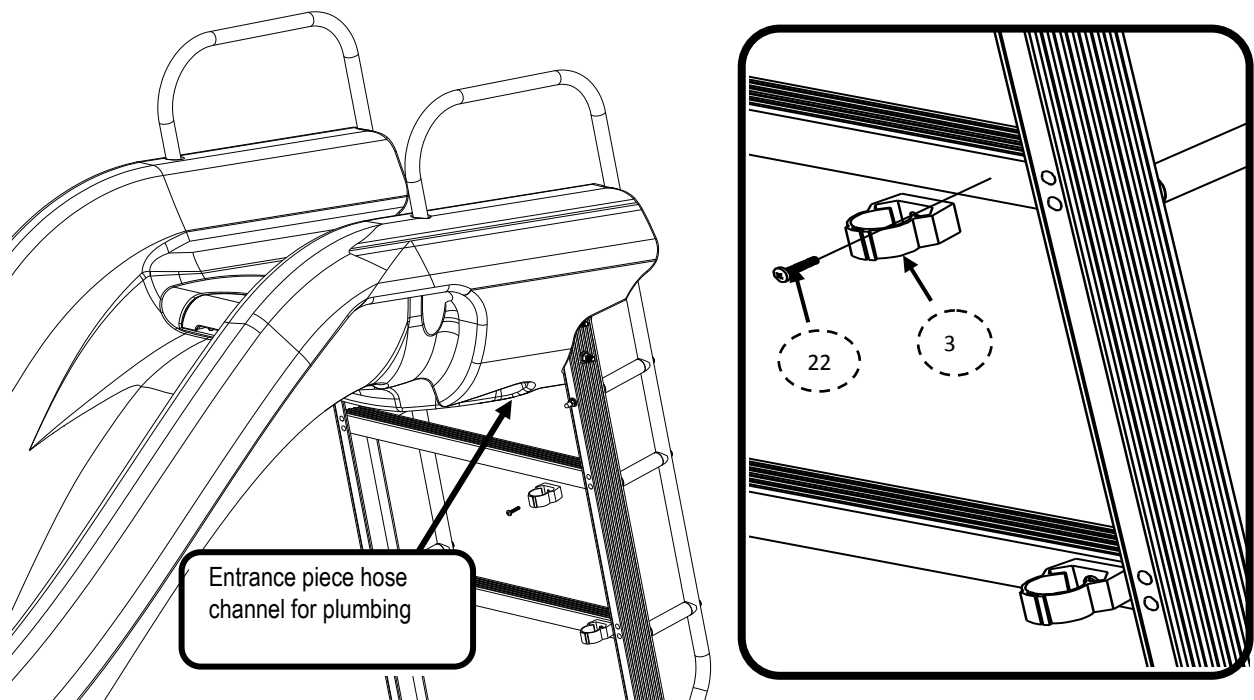

Figure 12
- 28) Use a drill with a Phillips bit to fasten the (#3) Plastic Pipe Clamp to the ladder as shown below in Figure 12. The hose clamp should be attached with the top of the clamp aligned with the top of the step and the side of the clamp against the ladder side rail, See Figure 12. Place (#6) Vinyl Cap over the tip end of the screw. Repeat this step for each tread on ladder.
- 29) Install the (#2) PVC 90° Elbow fitting onto one end of the PVC flex hose using PVC glue. Next apply glue to the male end of the (#2) Elbow fitting and the female fitting that is pre-installed in the slide. Connect the (#2) Elbow fitting and hose assembly to the slide while ensuring that the elbow fitting is oriented so that the hose is aligned with the hose channel in the bottom of the slide. See Figures 12 and 13.